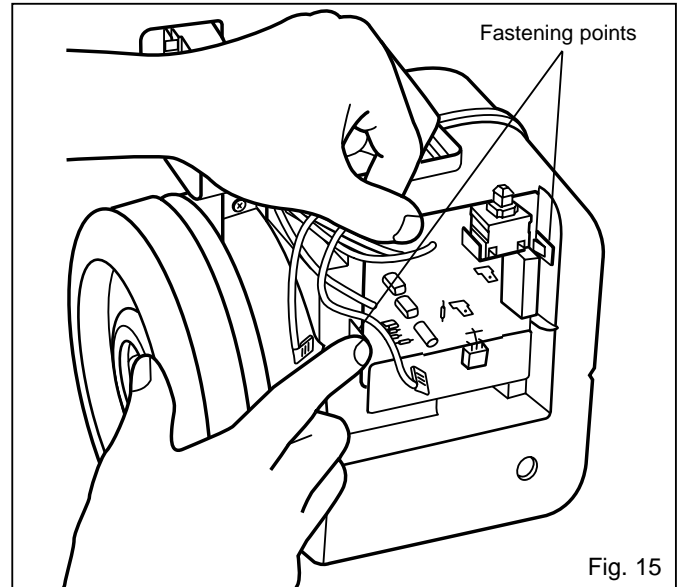

Fig. 15
3. Remove power control circuit from its fastening points and disconnect the lead wires from the power control circuit. (Fig. 15)